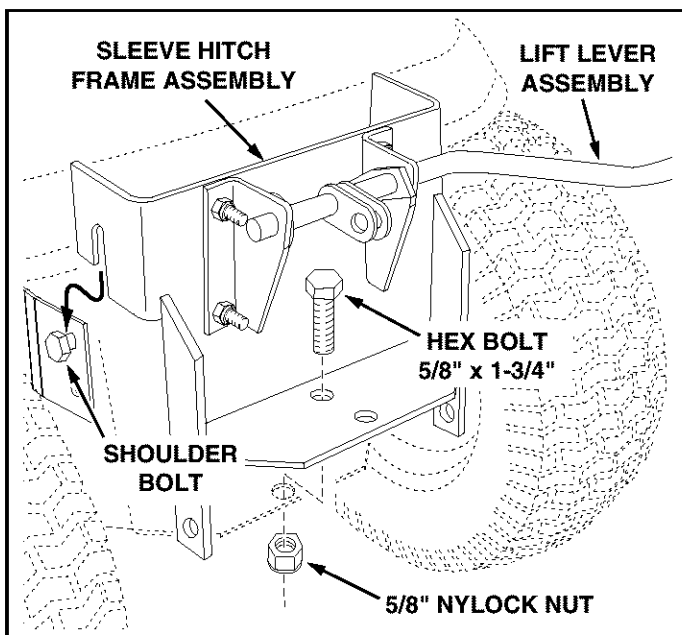

FIGURE 5
- Hook the Sleeve Hitch Frame Assembly onto the shoulder bolts in the mounting brackets. Attach the bottom of the Assembly to the tractor hitch using a 5/8" x 1-3/4" hex bolt and a 5/8" nylock nut. See figure 5.